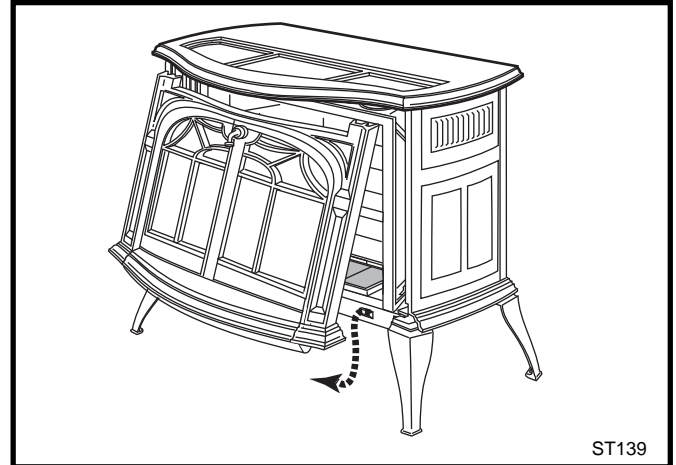

Fig. 36 Remove the front plate and top grille/screen.
2. Remove the front plate, top grille and screen. (Fig. 36)